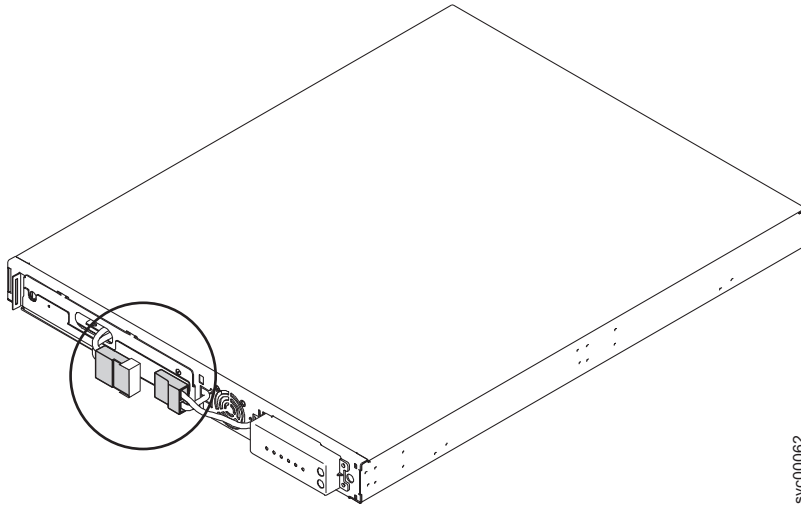

Figure 311. The 2145 UPS-1U internal battery connector with protective tape
7. After pulling the two connectors apart, cover the exposed battery connector (shown in Figure 311 on page 307) with adhesive tape.